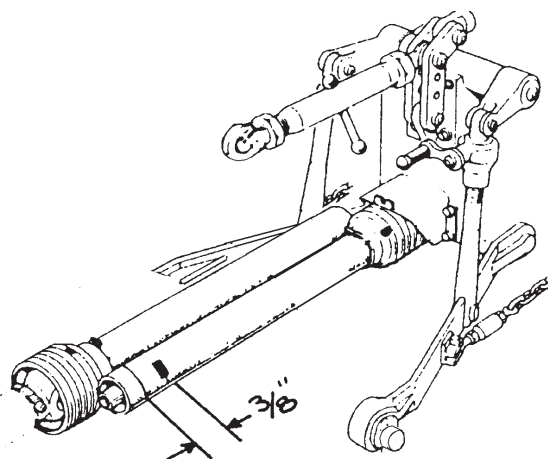

Figure 7
2. Lay the shaft sections side-by-side as shown in Figure 7. Mark the shield on the tractor end where it meets the shield cone on the mower end. Measure 3/8" back toward the tractor and make a second mark. (See **Figure 7**.)